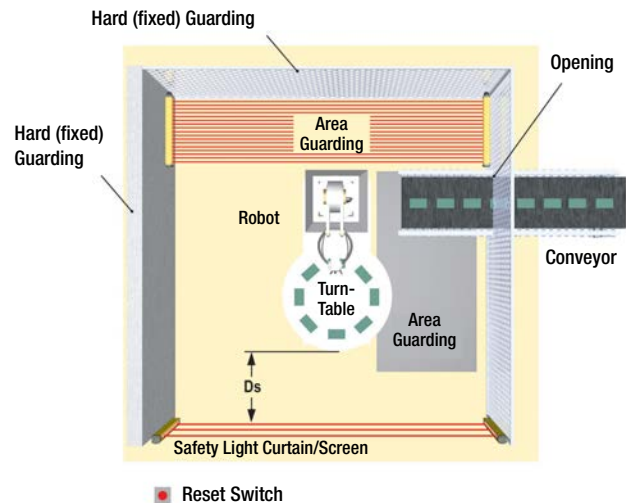

Figure 5. An example of supplemental safeguarding
Additionally, the hazard cannot be accessible by reaching around, under, or over the defined area. To accomplish this, supplemental guarding (mechanical barriers, such as screens or bars), as described by ANSI B11.19 safety requirements or other appropriate standards, must be installed. Access will then be possible only through the defined area of the EZ-SCREEN LPM System or through other safeguarding that prevents access to the hazard (see *Figure 5* (p. 22)).
*Figure 5* (p. 22) shows an example of supplemental safeguarding inside a robotic work cell. The EZ-SCREEN LPM, in conjunction with the hard (fixed) guarding, is the primary safeguard. Supplemental safeguarding (such as a horizontal-mounted safety light screen as an area guard) is required in areas that cannot be viewed from the reset switch (for example, behind the robot and the conveyor). Additional supplemental safeguarding may be required to prevent clearance or trapping hazards (for example, a safety mat as an area guard between the robot, the turntable, and the conveyor).